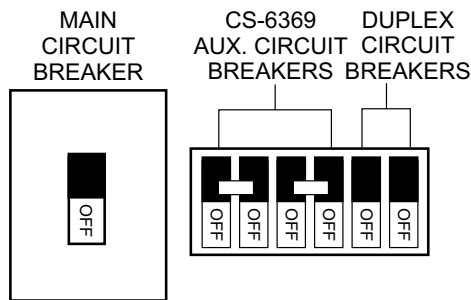

Figure 36. Main, Aux. and Duplex Circuit Breakers (OFF)
- Place the **main, aux. and duplex** circuit breakers (Figure 36) in the **OFF** position prior to starting the engine.